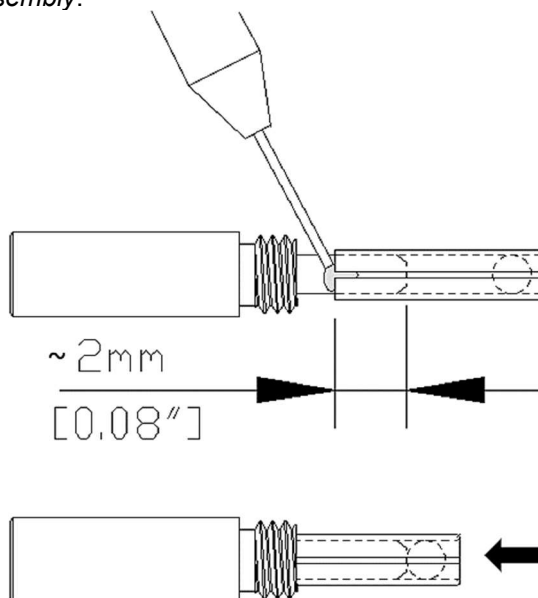

Figure 7
1. Taking care not to touch or otherwise contaminate the lens, slide the socket lens-unit onto the ferrule (with the open end first which is opposite the lens) - but not all the way. Stop when it has engaged an approximate ferrule length of 1.5 - 2.5 mm [.060 - .100 inches]. Apply EPO-TEK® 353ND epoxy to the ferrule just below the lens-unit, see Figure 7.